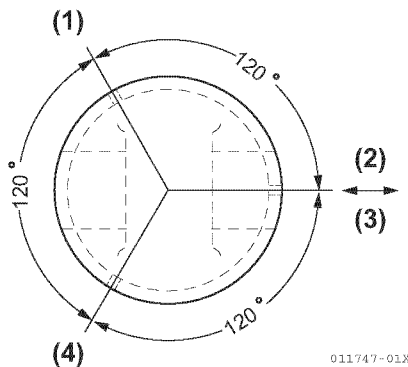
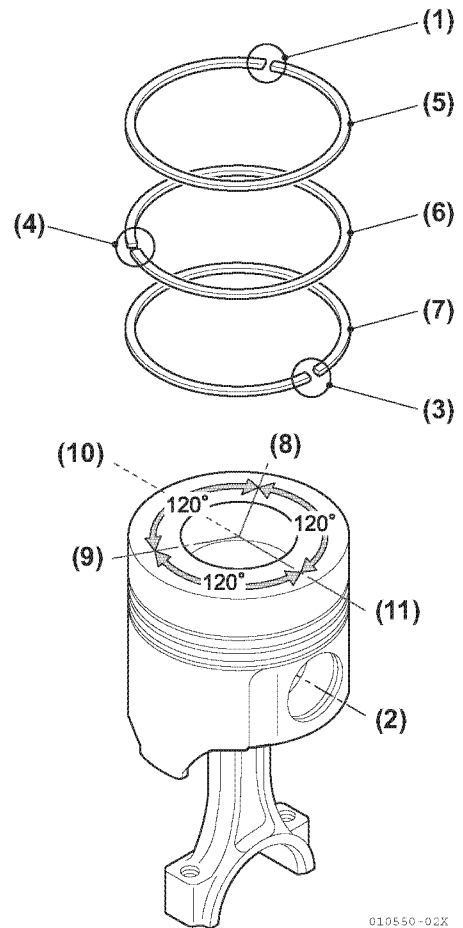
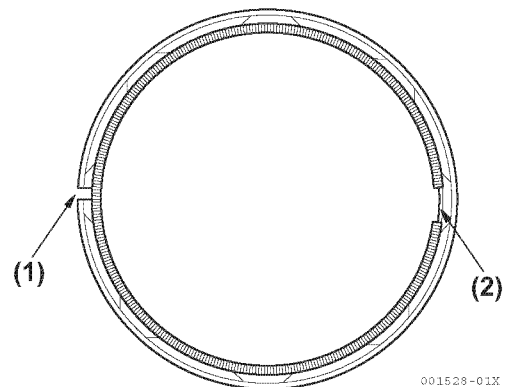

Figure 5-137
Figure 5-138
Figure 5-139
- The piston ring joints must be staggered at 120° to each other. Do not position the top ring joint in line with the piston pin (Figure 5-137) and (Figure 5-138). The coil expander joint must be opposite the oil ring joint (Figure 5-139).